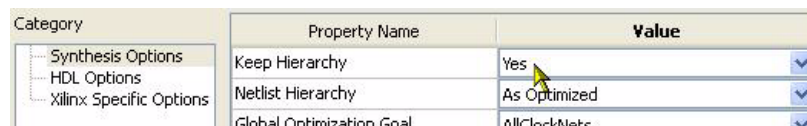

Figure 8-1: Selecting Keep Hierarchy
2. Set the Keep Hierarchy option to **YES** as shown in Figure 8-1.